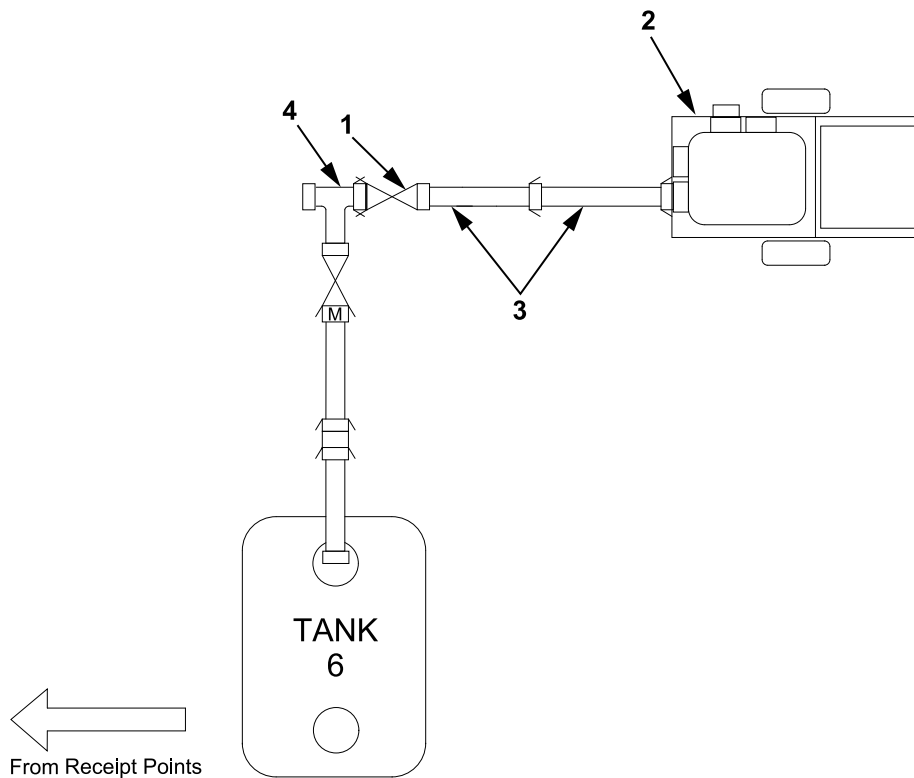

Figure 7. Connection of Discharge 350 GPM Pumping Assembly.
4. Connect a 4 in. X 4 in. gate valve (Figure 7, Item 1) to tee assembly (Figure 7, Item 4).
5. Connect the two sections of 4 in. X 10 ft suction hose (Figure 7, Item 3) to 4 in. X 4 in. gate valve (Figure 7, Item 1) towards the suction port of the 350 GPM fuel pumping assembly (Figure 7, Item 4).
6. Position the spill containment berm adjacent to the end of the two sections of 4 in. X 10 ft suction hose (Figure 7, Item 3).
7. Position the 350 GPM fuel pumping assembly (Figure 7, Item 2) in the spill containment berm.
9. Connect the two sections of 4 in. X 10 ft suction hose (Figure 7, Item 3) to the suction port of the 350 GPM fuel pumping assembly (Figure 7, Item 2).